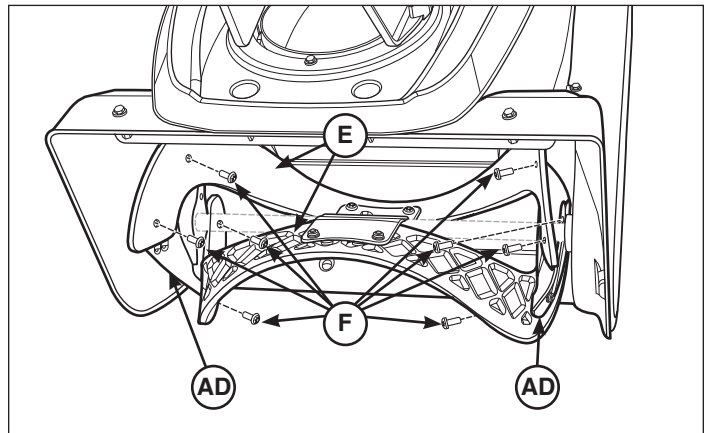

Figure 6
4. Insert two screws (**F**, Figure 6) on each side of both augers (**E**) and secure to auger end plates (**AD**) as shown.